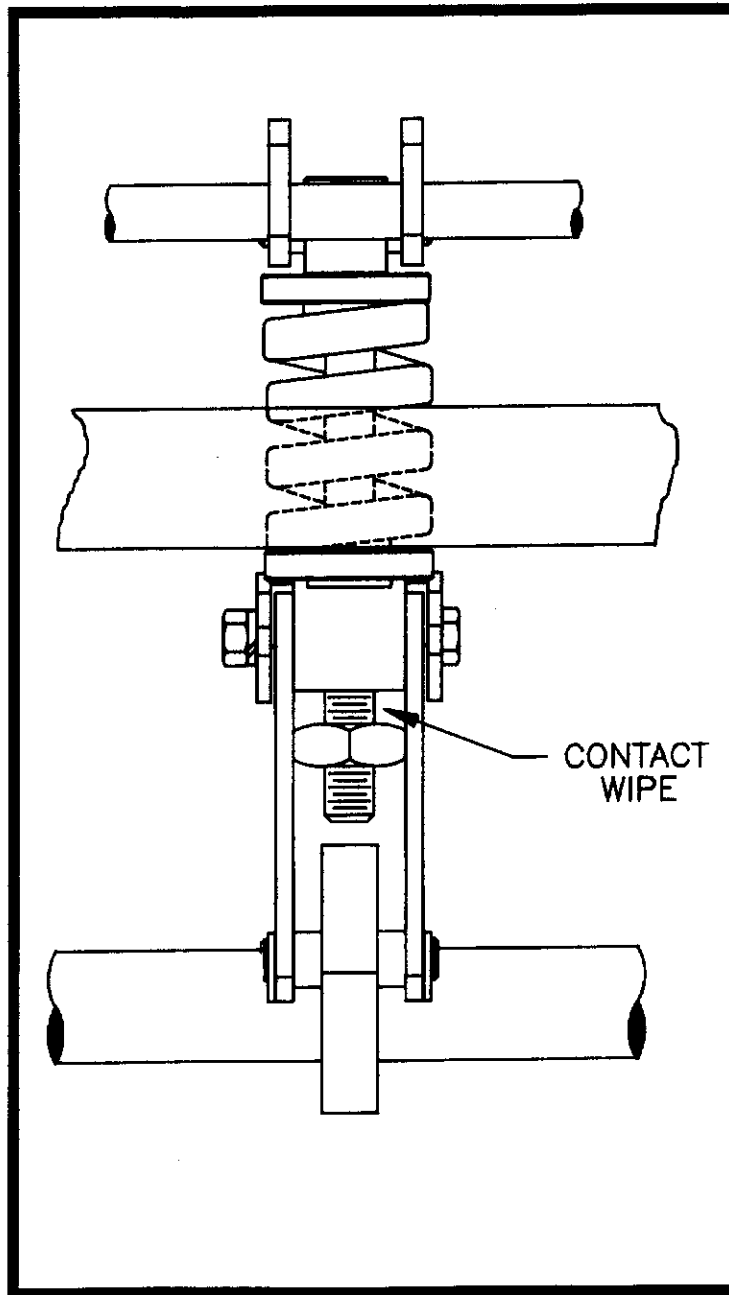

Figure 2 - Contact Wipe
2. Contact wipe (figure 2) test. The contact gap and contact wipe is set at the factory. These parts should not be repositioned in the field unless a pushrod change is required to correct contact sequence as described elsewhere. Contact wipe is set at the factory at .093 minimum. Contact erosion and wear in mechanical parts will cause a reduction in contact wipe over the life of the breaker and a check should be made to insure that the wipe is not less than .039" (1mm). The measurement is made as follows for the three poles:
- The contact gap is the difference between the two measurements: $Y2 - Y1 = \text{contact gap}$. The acceptable limits are .281 - .547 inches (7.14 - 13.89 mm), with the upper limit being approached as the contacts wear and the contact wipe (see figure 2) approaches the .039 inch (1mm) minimum. Additionally, to allow for proper contact sequencing (see section 4), there should be no more than .062 inch (1.58mm) difference between the pole with the minimum gap if no timing equipment is available. A larger difference is acceptable if verified.